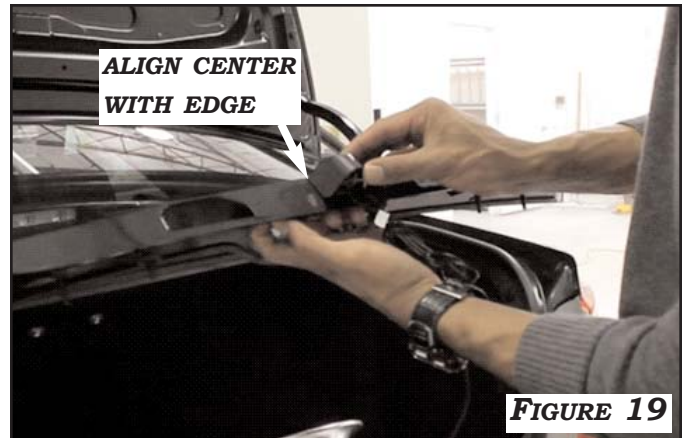

FIGURE 19
1. CLEAN THE CENTER BOTTOM OF THE LICENSE PLATE TRIM PIECE WITH ALCOHOL. PEEL THE CLEAR LINER OFF THE DOUBLE-SIDED TAPE ON THE CAMERA ASSEMBLY AND MOUNT TO THE TRIM PIECE AS SHOWN IN **FIGURE 19**. BE SURE TO PUSH THE CAMERA ASSEMBLY AND PRESS DOWN FIRMLY ON THE TRIM PIECE FOR FIVE SECONDS BEFORE RELEASING.